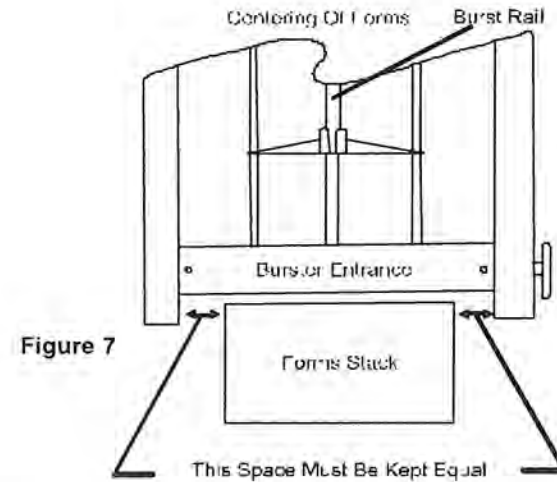

Figure 7
3. Loading The Forms: Align continuous forms in the center of the unit. Center of arm must be aligned with the burst rail. Failure to align form will cause mis-tracking and possible jamming. See Figure 7
4. Bursting And Slitting: Locate the two (2) margin slitter housings in the front of the Burster. These housings contain two sets of rotating high carbon steel blades which are used to trim 1/2" to 3/4" margin width off of edges of continuous forms. They may be used to trim both edges, one edge, or not used (burst only).